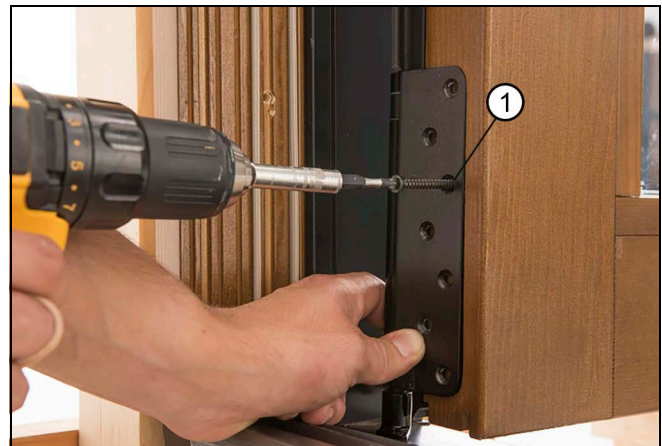
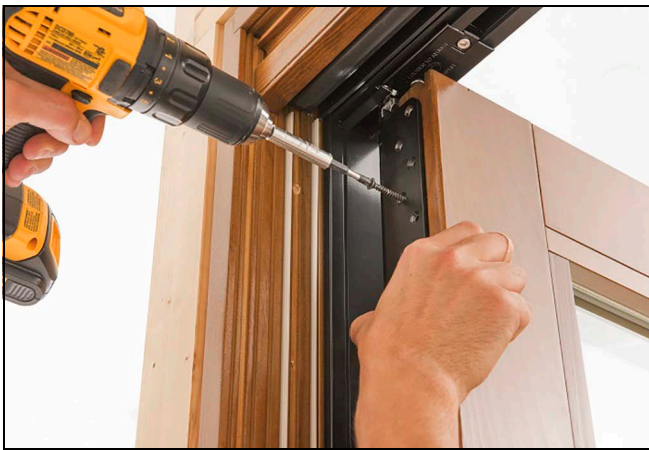

Figure 59
Figure 60
3. Locate the panels adjacent to any hinges numbered 1 and 2 then fasten. See Figure 59 and Figure 60.